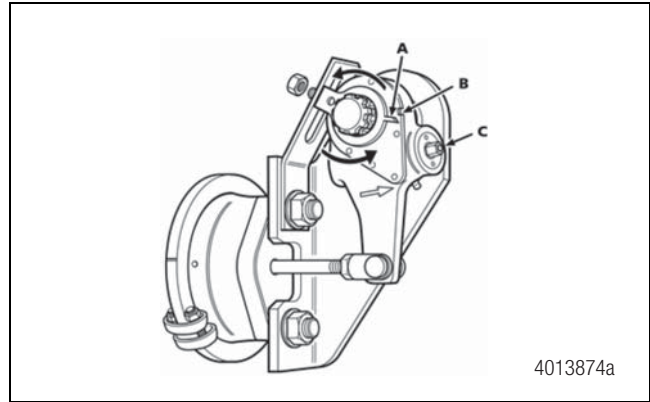

Figure 5
- Rotate the control arm as far as possible away from the hex nut C towards the air chamber. Figure 5.